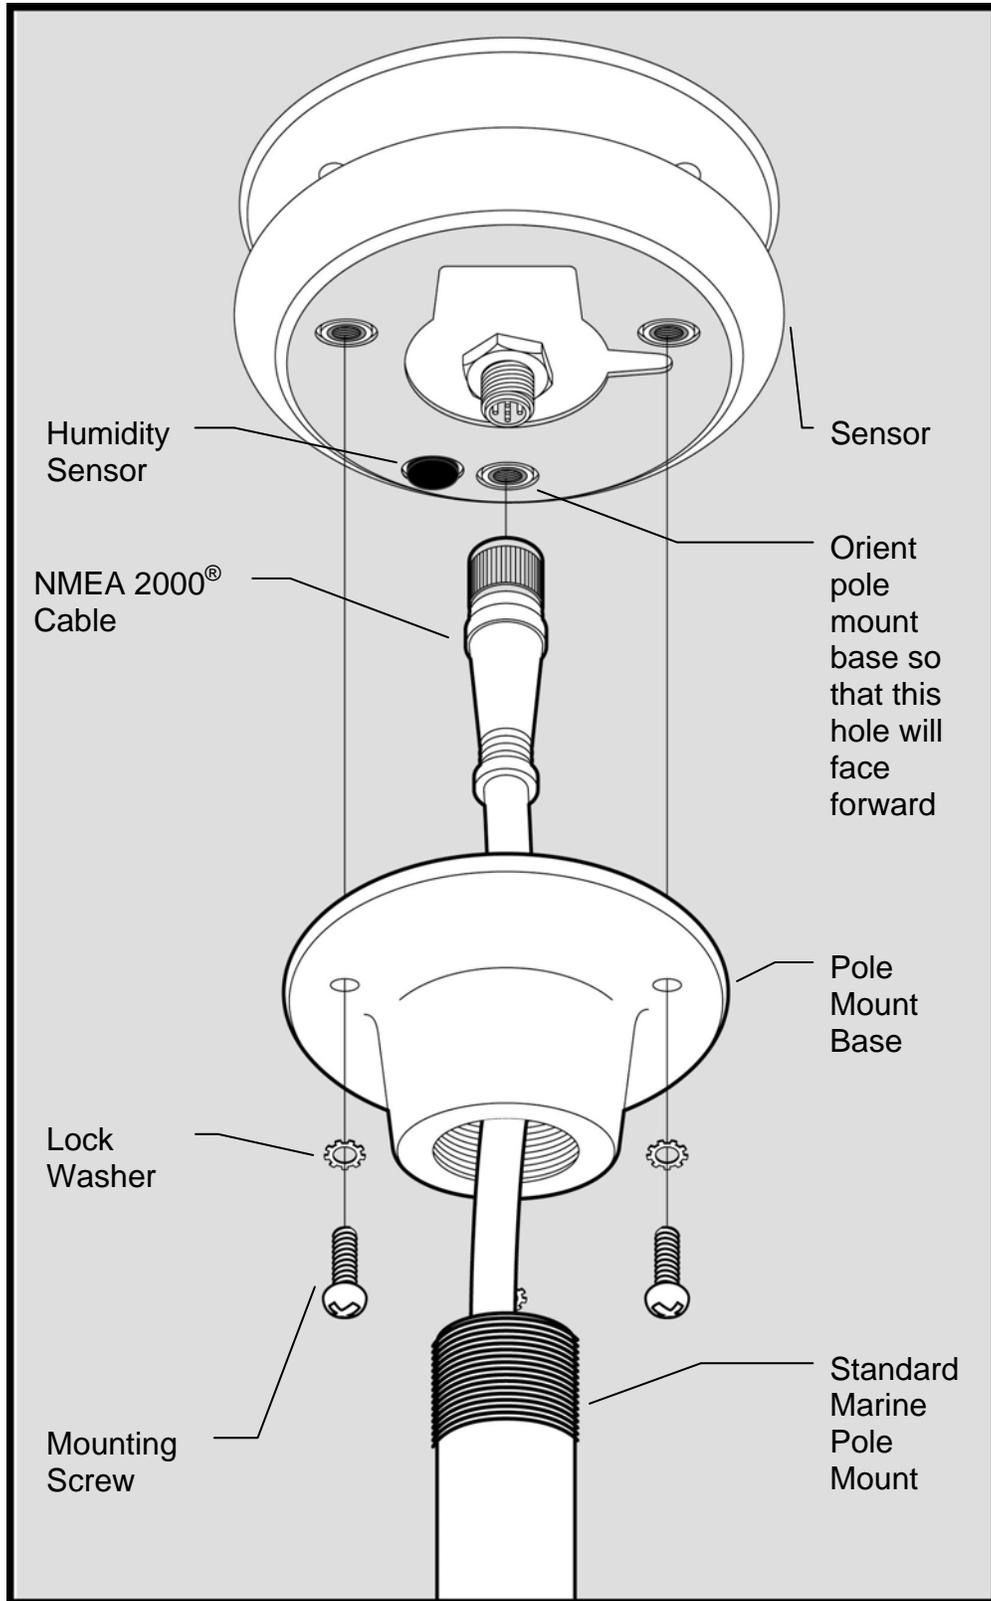

Figure 1 – Mounting the WSO100 to a Standard Marine Pole Mount
Route the NMEA 2000[®] cable through the standard marine pole mount and the pole mount base and connect it to the WSO100 unit (see Section 2.4 below). Finally, attach the WSO100 to the pole mount base using the included brass mounting screws and lock washers as shown in Figure 1. Do not use threadlocking compounds containing methacrylate ester, such as Loctite Red (271), as they will cause stress cracking of the plastic enclosure.